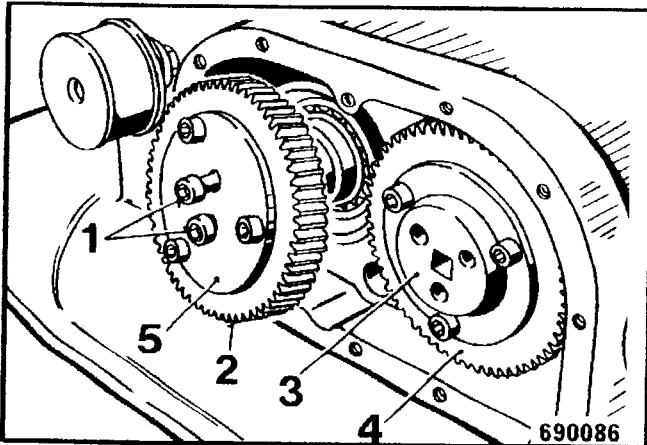

Fig. 7
- Drive the gear 4 (Fig. 7) on the control housing first of all onto the exciter shaft.
- Attach the tappet (3) and tighten it.
- Install the cover disc (5) to the gear wheel (2).
- Screw two guide screws (1) into the exciter shaft through the mounting bores in the cover plate.